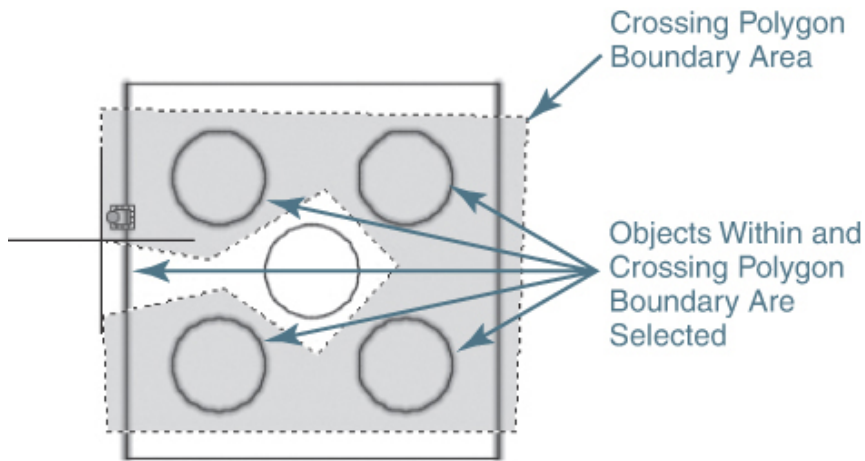

Figure 7-14
The **Crossing Polygon** option works similarly to the **Window Polygon** option. It also allows you to define a polygonal window area using multiple pick points except that, like the **Crossing** option, objects that cross the polygon window are also selected. When you enter the **CP** option, AutoCAD prompts you for the first polygon point and then prompts you for line endpoints until you press **<Enter>**, as shown in Figure 7-14.
- 4 Create a **Crossing Polygon** selection similar to the one shown in Figure 7-14, and press **<Enter>** twice. The four circles at the corners and the two vertical lines of the square are erased.